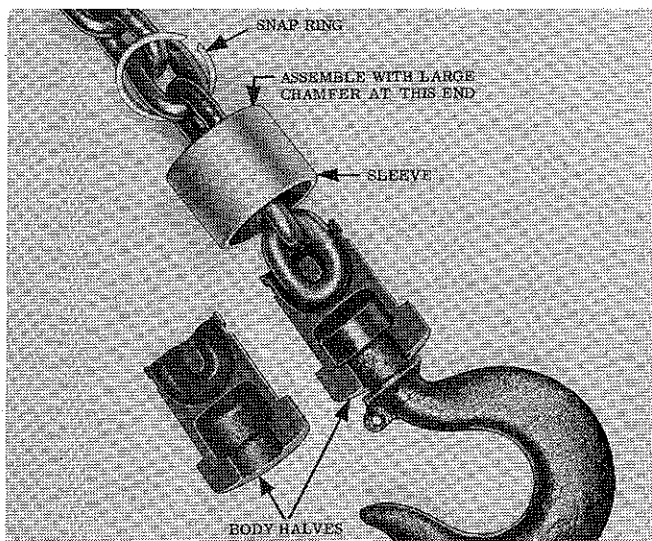
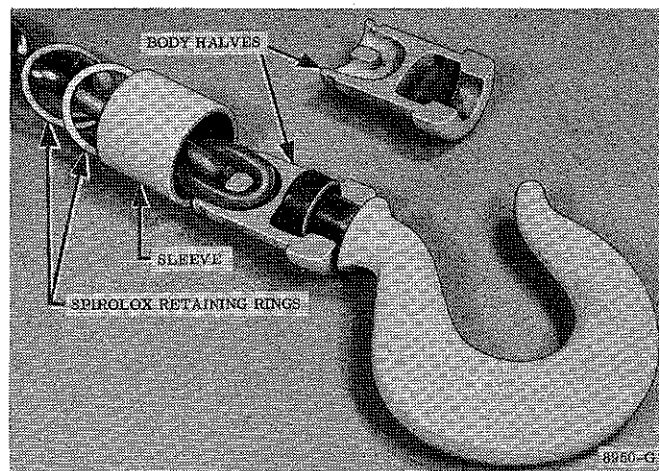

Figure 6-1. Lower Hook Connection - Current 1-1/2 Ton Model Hoists
Figure 6-2. Lower Hook Connection - Early 1-1/2 Ton Model Hoists
a. Remove hook from end of load chain. Remove snap ring at top of sleeve, slide sleeve from body halves and separate parts. See Figure 6-1. Early models have two Spirolox retaining rings holding lower block sleeve. See Figure 6-2. To remove, carefully unwind rings using knife blade or other suitable tool.